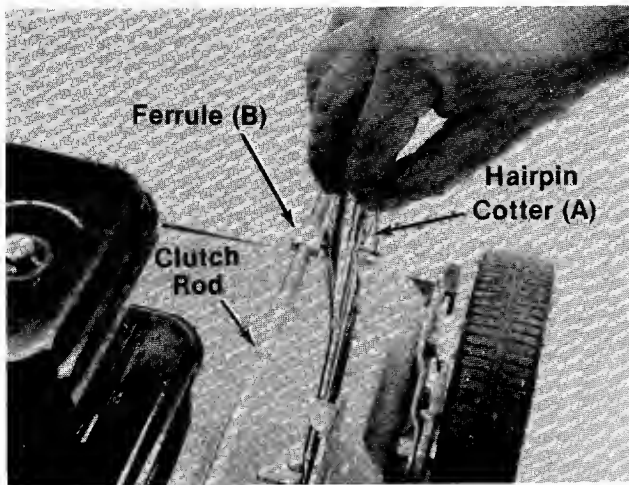

FIGURE 6.
7. Thread the clutch rod into the ferrule (A) until the ferrule lines up with the hole in the lower handle. Secure ferrule in handle with cotter pin (B) as shown in figure 6. Check for 1/8" clearance between drive pinion and front wheels. See **clutch rod adjustment** on page 9.
1. Remove the cotter pin. See figure 6.